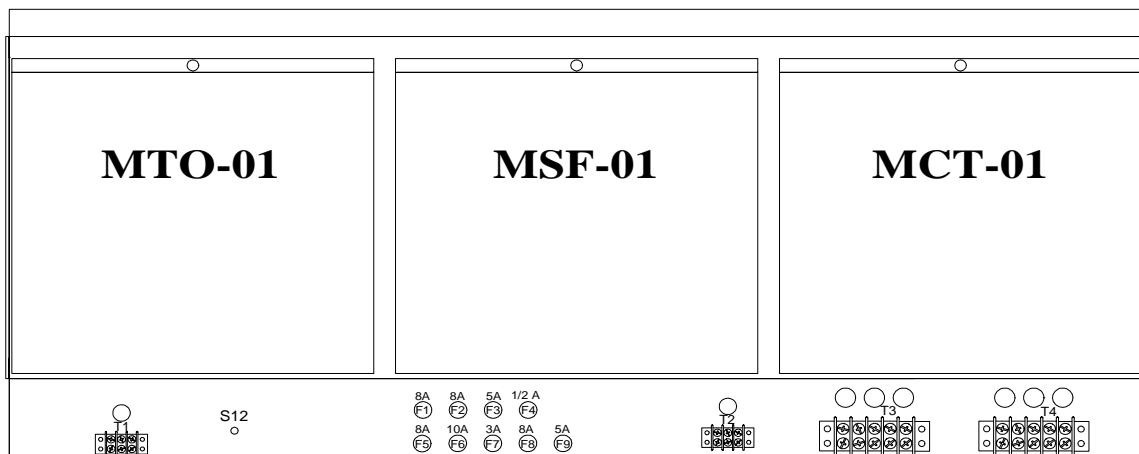

Figure 12 Upper Access Panel Removed
2. Figure 12 shows the view behind the access panel. Feed the power cables through one of the holes in the plate below the access panel.